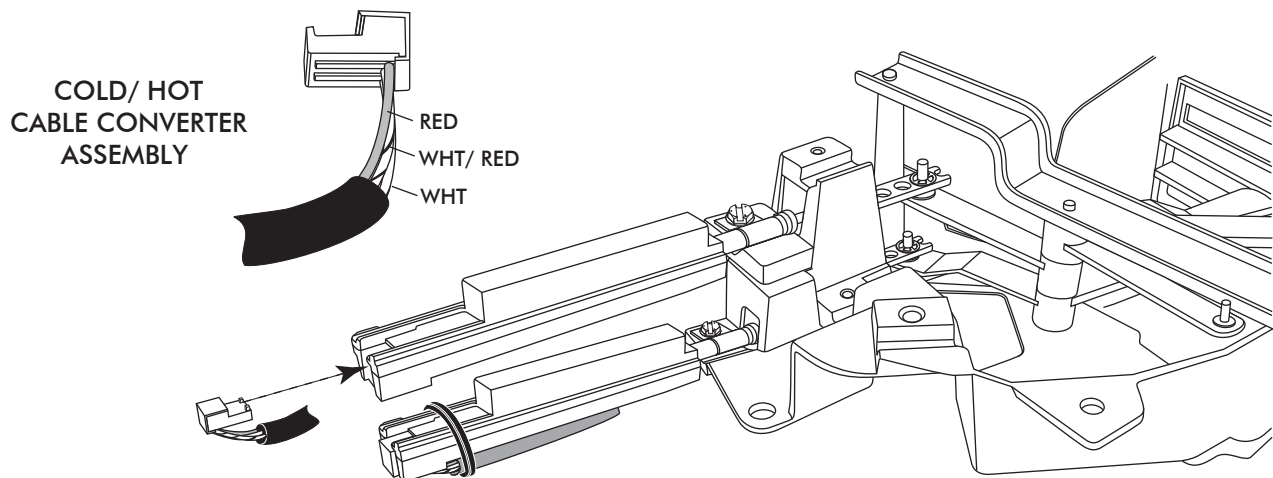

FIGURE 8
- LOCATE THE CONTROL PANEL WIRE HARNESS, PLUG THE CORRESPONDING WIRES INTO THE CORRECT CABLE CONVERTER ASSEMBLY AS SHOWN IN FIGURE 8 BELOW.